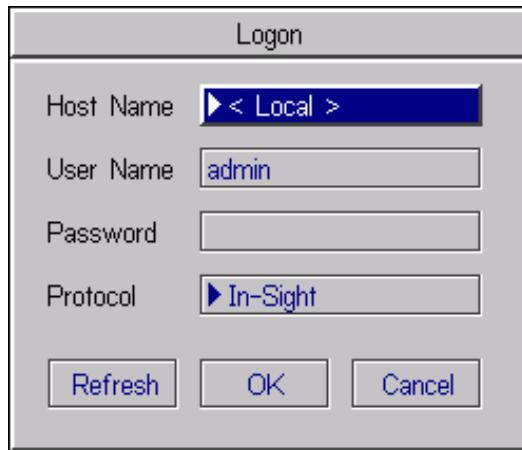

Figure 2-13: Logon Dialog
2. From the spreadsheet, open the System menu and click Logon to open the Logon dialog (Figure 2-13).